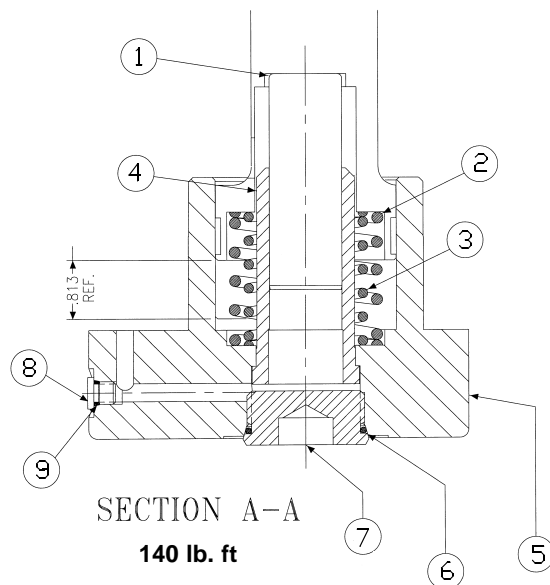

FIGURE 9
PARTS LIST FOR FIGURE 9
1. **See Figure 9.** Set maximum volume stop to full stroke. Remove 4 screws holding cap to pump. Caution! Spring load could cause injury!
3. Remove and examine springs (2), (3) and piston (1). If sleeve (4) is worn, press it out and replace.